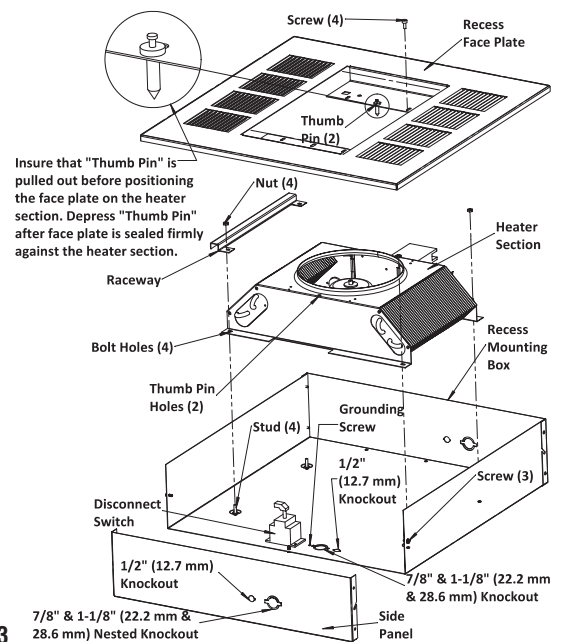

Figure 3
1. Remove the recess mounting box (Figure 3) from the carton containing the Recess Mounting Enclosure, Type REA.
2. Remove three screws and the side of the recess mounting box to allow for easier wiring (Figure 3).
3. Remove one of the knockouts close to the ground screw and install a cable or conduit connector (Figure 3).
4. Install the optional disconnect switch (if required as shown in Figure 3).
8. Position the heater section over the studs in the recess mounting box (Figure 3).
- Push the heater section onto the studs and securely tighten two nuts (supplied) on the studs to secure the half of the heater section opposite the sleeved wires to the recess mounting box. Push the raceway onto the studs ensuring that the sleeved wires are in the raceway and securely tighten two nuts (supplied) on the studs to secure the raceway and the other half of the heater to the recess mounting box (Figure 3).
- Remove the Recess Face Plate (Figure 3) from the carton containing the Recess Mounting Enclosure, Type REA.
NOTE: Insure that the “thumb pin” in each end of the discharge grille opening is pulled outward to allow the body of the thumb pins to fit into the holes in the heater section. (Figure 3.)
- Install and securely tighten four screws (supplied) to secure the recess face plate to the heater section (Figure 3).